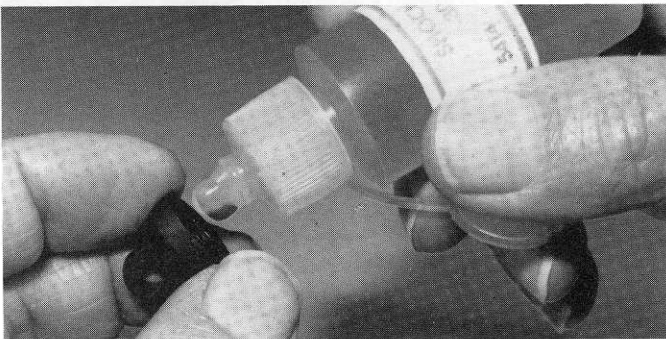

Fig. 118
- Fig. 118** IMPORTANT: Thoroughly lubricate the threads in the cap BEFORE installing. IT MUST BE LUBRICATED FOR PROPER INSTALLATION. We'll install it in a minute.